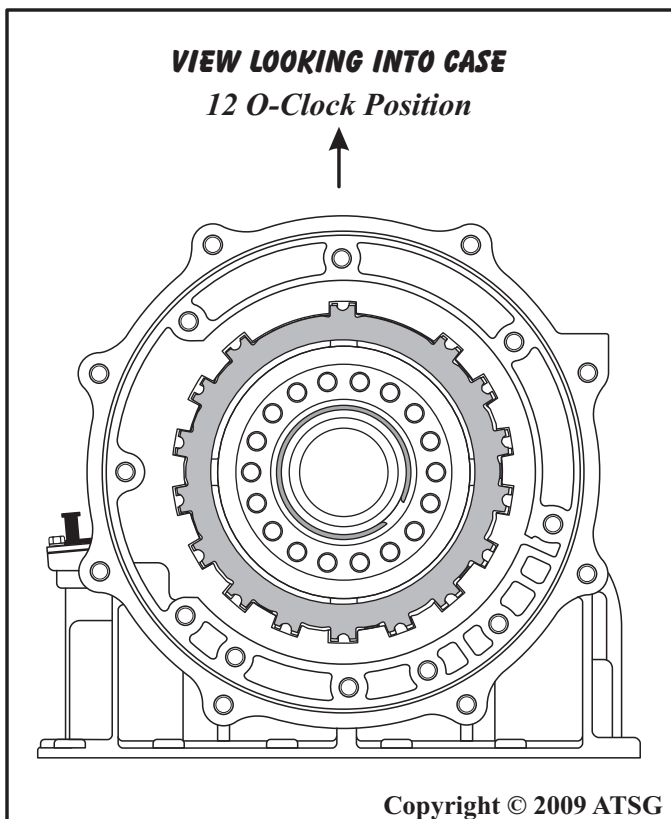

Figure 190
- Note: The forward clutch steel plates must also be oriented properly in the case, with the single lug located at the 12-O'clock position in the case, as shown in Figure 190.*
- Note: The forward clutch backing plate must also be oriented properly in the case, with the single lug located at the 12-O'clock position in the case, as shown in Figure 190.*